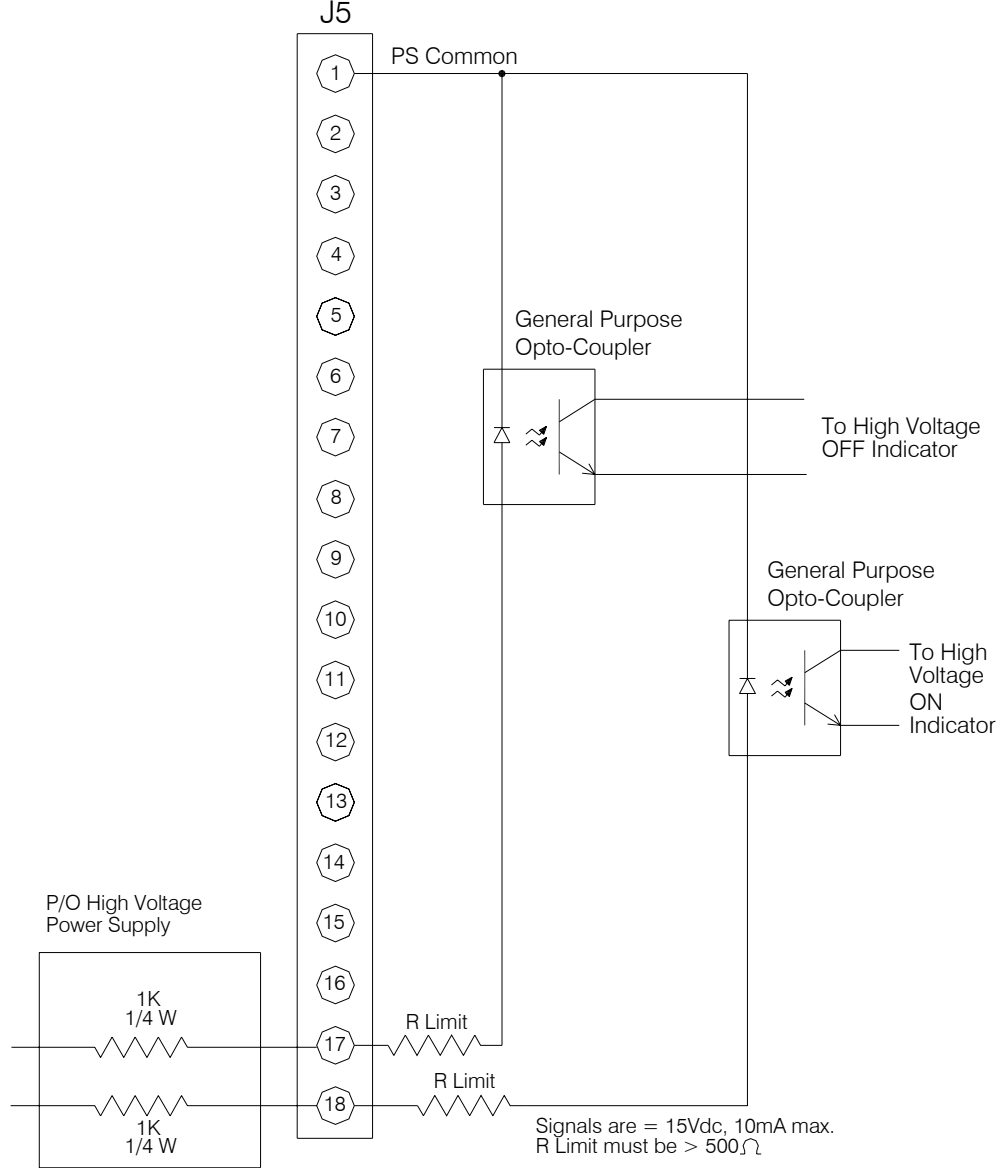

Figure 3.7 – Remote High Voltage ON and Remote High Voltage OFF Indicator
- **REMOTE HIGH VOLTAGE ON & REMOTE HIGH VOLTAGE OFF:** Signals are provided for remote monitoring of the HIGH VOLTAGE ON/OFF status. See Figure 3.7 for recommended interface.